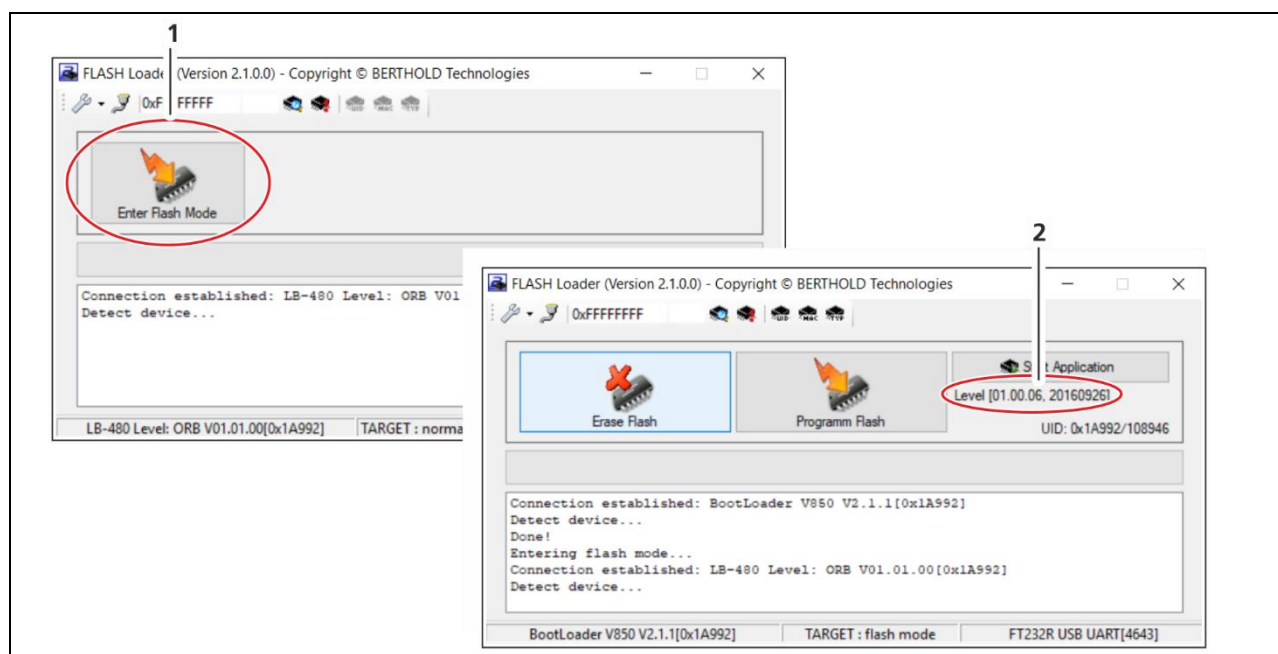

Fig. 5 “Flash Mode” and installed embedded software
22. Click on the button <Enter Flash Mode> to open the programming function (Flash Mode) (Fig. 5, Pos.1).
- ▶ The Flash Mode is started, and the version of the installed embedded software is displayed (Fig. 5, Pos.2).